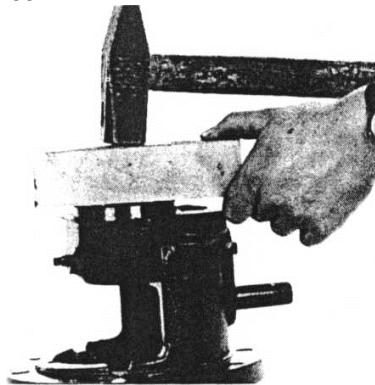
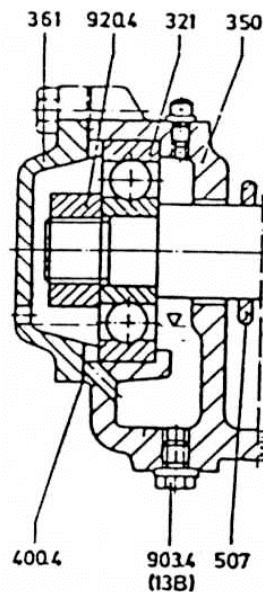

Fig. 66 - Inserting the outer race of the roller bearing
Fig. 78 - Bearing construction, pump sizes 40 to 125
The bearing should be replaced by new ones even if there are only slight discoloration or rust specks or signs of damage on the contact faces (tracks and balls or rollers). The outer race of the cylindrical roller bearing should be inserted as illustrated in Fig. 66.
The impeller necks – in the case of material construction 12% Cr. (chrome steel construction throughout) these are provided with impeller wear rings (503) – and the casing wear rings (502), stage sleeves and diffuser in the case of chrome steel construction throughout the latter are provided with stage bushes (541) – should all be examined for signs of radial galling (seizure). The spacer sleeve (525.1) should be examined for signs of galling in the suction casing (see Fig. 66). If any galling has been ascertained, and if it can be eliminated by touching up on a lathe, the increase in clearance which results must not exceed the max. Permissible values listed in Table 2 “Rotor Clearances”. If the touching up work on the components results in a clearance in excess of the max. permissible value, new components should be fitted, and the “as new” clearances listed in Fig. 78 should be re-established. The increase in clearance must be adjusted to the same value at all the throttling gaps on the pump. In principle, if the clearances have been exceeded at one or more places inside the pump body, and new wear parts have to be fitted at those places, it is advisable to fit new wear parts at all the other places as well.
1. Mount thrower (507) onto shaft (210).
2. Slip bearing housing (350) onto the shaft and onto the studs on discharge casing (107), and fasten it the nuts (920.2) (see Fig. 78).